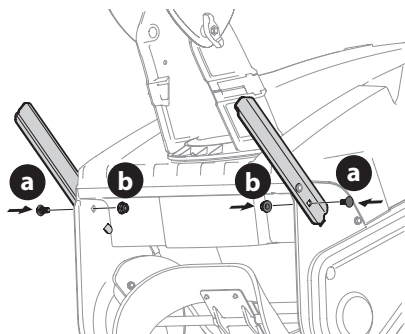

Figure 16
1. Remove the carriage bolts (a) and flange lock nuts (b) from the drift cutters (Figure 16).